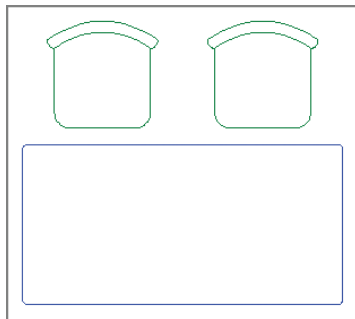

FIGURE 7.11 Copying a block reference
8. Click the Copy tool in the Modify panel, type **L** (for Last), and press Enter twice. Click an arbitrary point on the drawing canvas, type **@2'6"<0** (or **@80<0** for metric), and press Enter to copy a chair to the right (see Figure 7.11). Press Esc to end the COPY command.